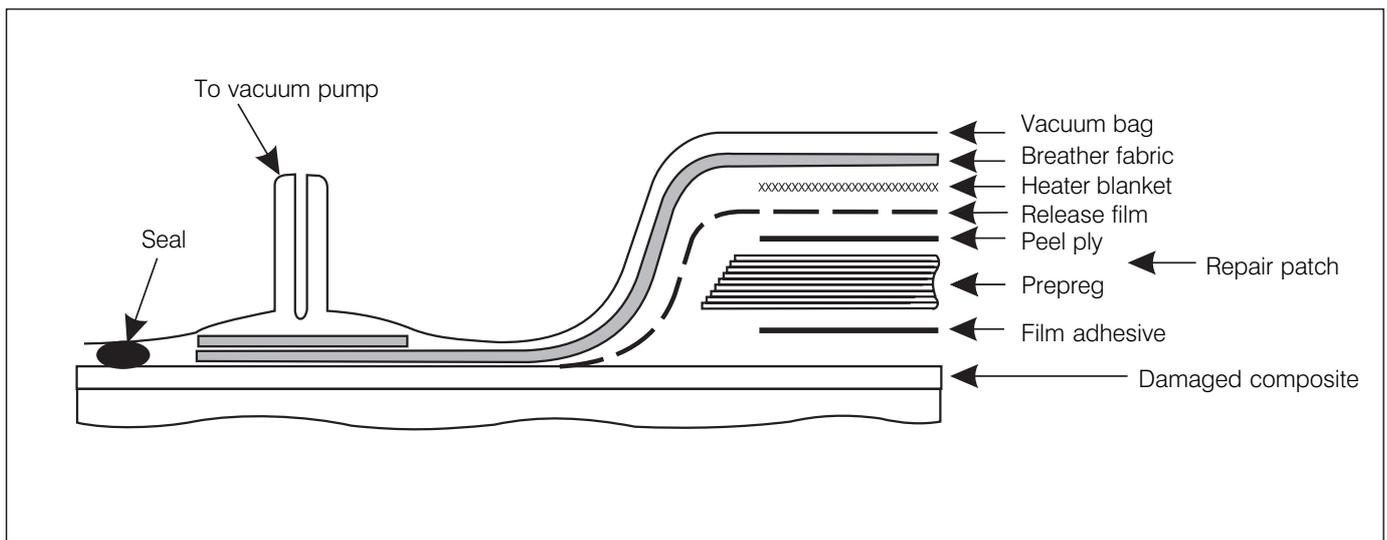
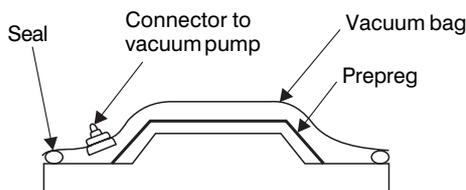

Fig. 1 Detail of vacuum bag lay-up
Fig. 2 Sealing flexible bag over lay-up
**Vacuum bag processing** is suited to components with thin sections and large sandwich structures. The vacuum bag technique involves the placing and sealing of a flexible bag over a composite lay-up (fig. 1) and evacuating all the air from under the bag (fig. 2).
**Autoclave processing** is used for the repair of high quality structural components. The autoclave technique requires a similar vacuum bag (fig.1) but the oven is replaced by an autoclave. The autoclave is a pressure vessel which provides the curing conditions for the composite where the application of vacuum, pressure, heat up rate and cure temperature are controlled. High processing pressures allow the moulding of thicker sections of complex shapes. Honeycomb sandwich structures can also be made to a high standard. Long cure cycles are required because the large autoclave mass takes a long time to heat up and cool down. Sometimes slow heat up rates are required to guarantee even temperature distribution on the tooling and composite components.